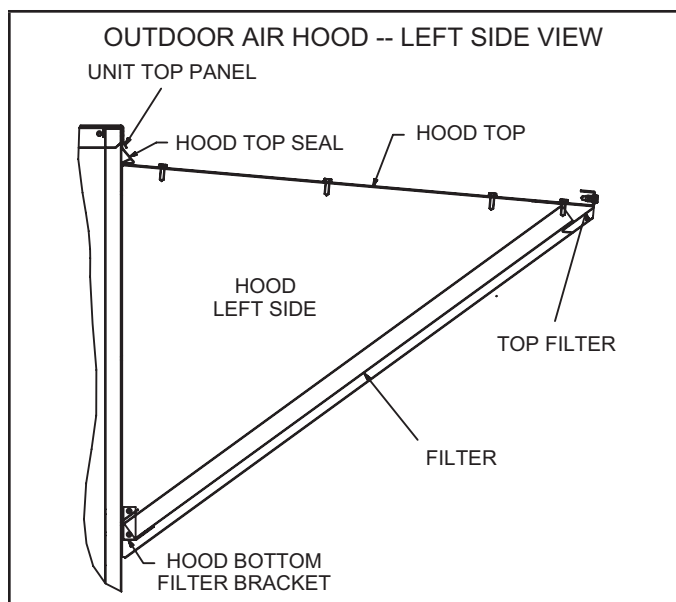
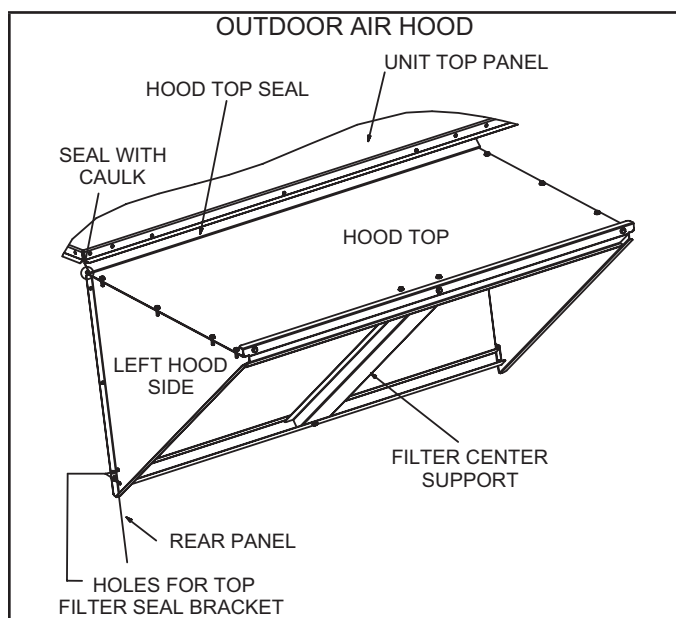

FIGURE 12
FIGURE 13
- 6 - Before securing unit top panel with retained screws, position the outdoor air hood top seal under the panel as shown in FIGURE 12 and FIGURE 13. The outdoor air hood top seal is shipped with the other outdoor air hood components.
- 4 - Secure hood left side to the hood top and to the unit cabinet using the provided screws. See FIGURE 12.
- 9 - Slide two filters into slot of the bottom filter seal bracket. Insert a filter spacer between the two filters and secure it to the hood top panel. Use the provided threaded hex insert and a #10 - 32 X 1/2" thread forming screw to secure the hood top filter bracket. See FIGURE 13.